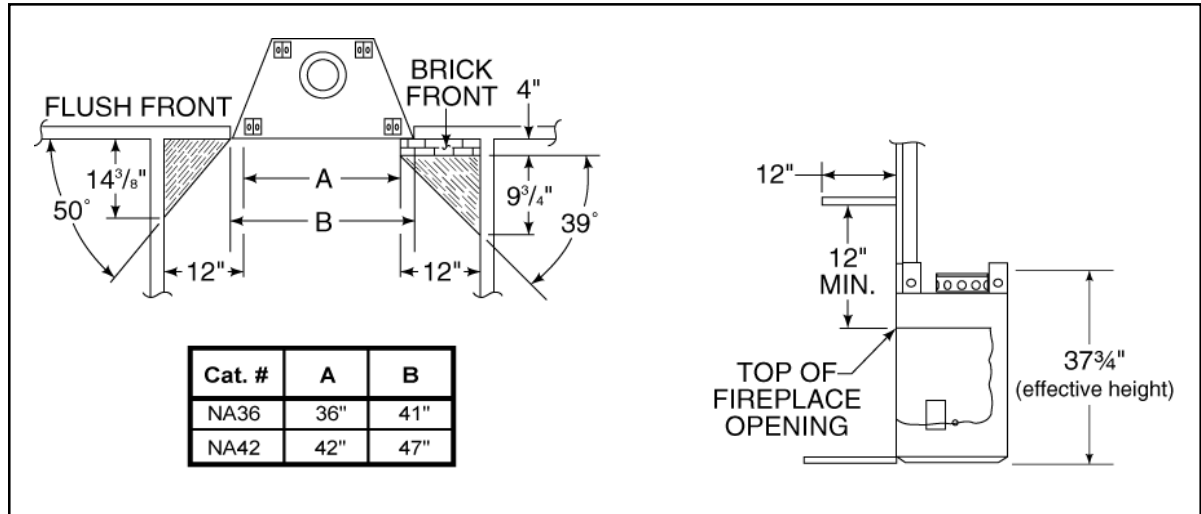

Figure 6 - Sidewalls and Surrounds
Adjacent combustible side walls must be located a minimum of 12" from the fireplace opening. See Figure 6. If you are using a decorative surround constructed of combustible material, it must be located within the shaded area defined in Figure 6. Short stub walls are also acceptable if they are contained within the shaded area.
- The effective height of the fireplace assembly is measured from the base of fireplace to top of starter collar. See Figure 6.